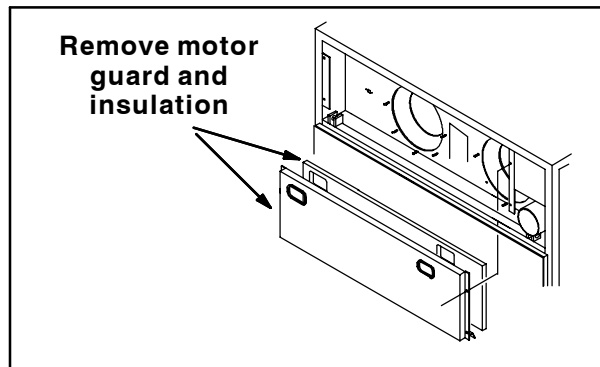

FIG. 10
15. Remove the motor guard and insulation from the hopper. Set the motor guard, insulation, and hardware aside. Refer to Fig. 10.
58. Reinstall the motor guard and the insulation onto the hopper. Refer to Fig. 10.